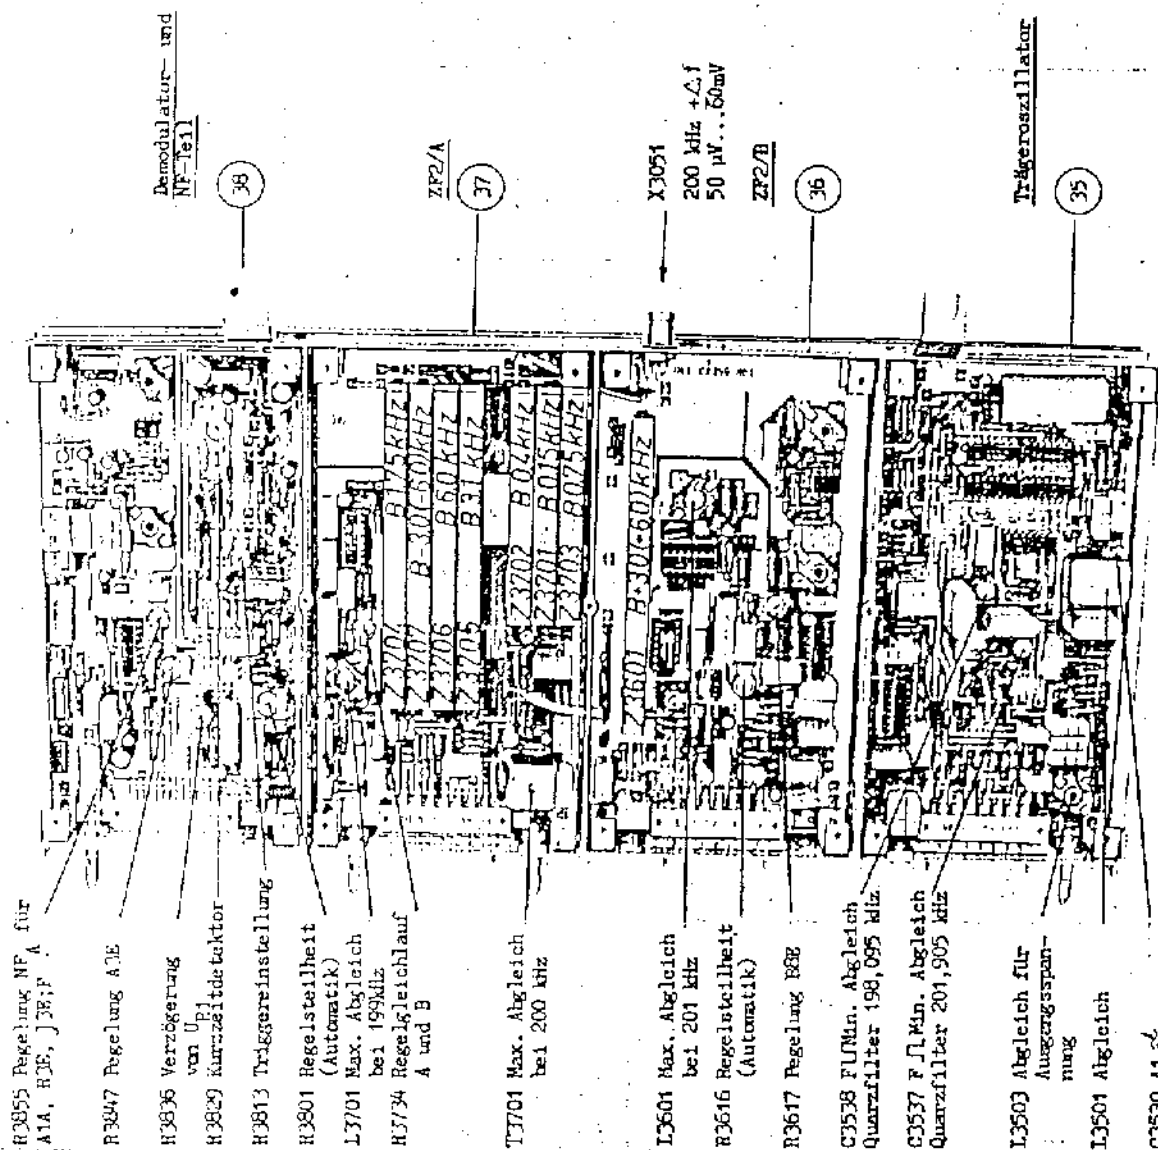

Figure 19
- Load line output A (25) and line output B (26) at one end — 1 and with R = 600 ohm to avoid interferences
- Perform level check acc. to figure 19 or 20.